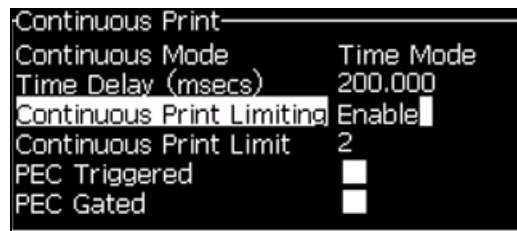

Figure 4-26: Continuous Print Dialog Box
- 1 Select *Continuous Print* from the *Print Menu*. The *Continuous Print* dialog box appears (see Figure 4-26).